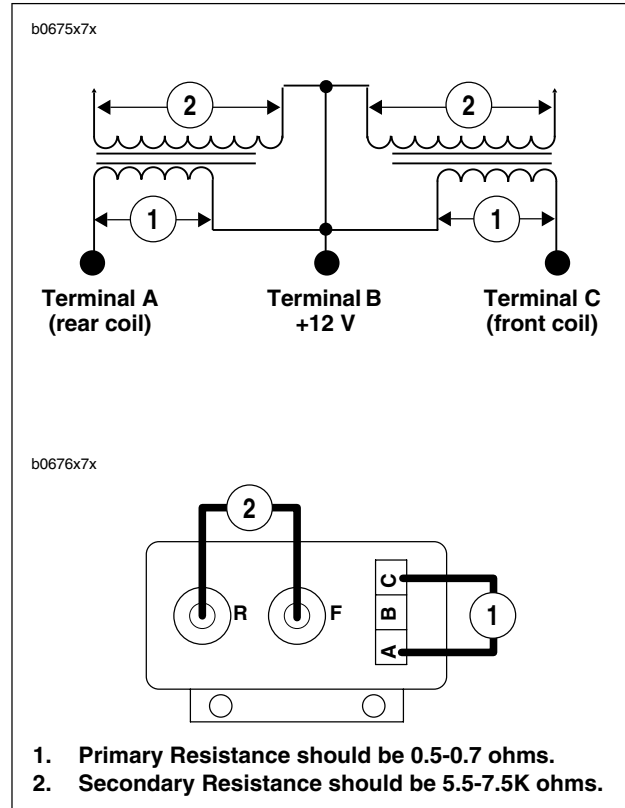

Figure 4-76. Ignition Coil Testing
3. See Figure 4-76. Place multimeter wires on primary coil windings (1).
3. See Figure 4-76. Place multimeter wires on secondary coil windings (2).